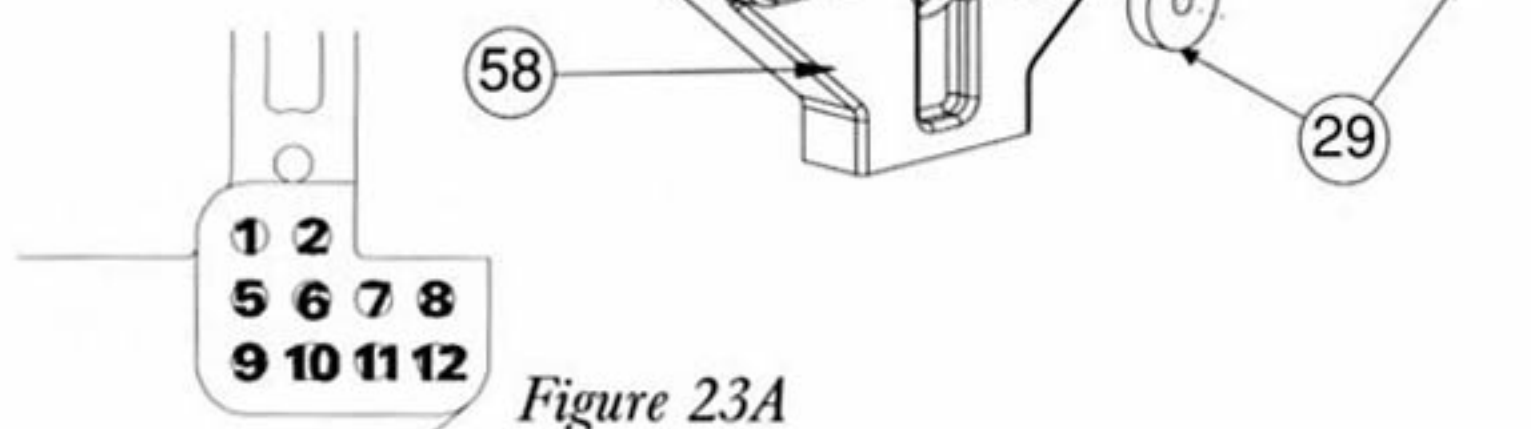

Figure 23A
❑ Step 8. Thread a 3/8" ball stud (59) into the #6 hole on each side of the rear bulkhead (58). Place a foam thing (29) over each of the two ball studs (59). See Figure 23A.